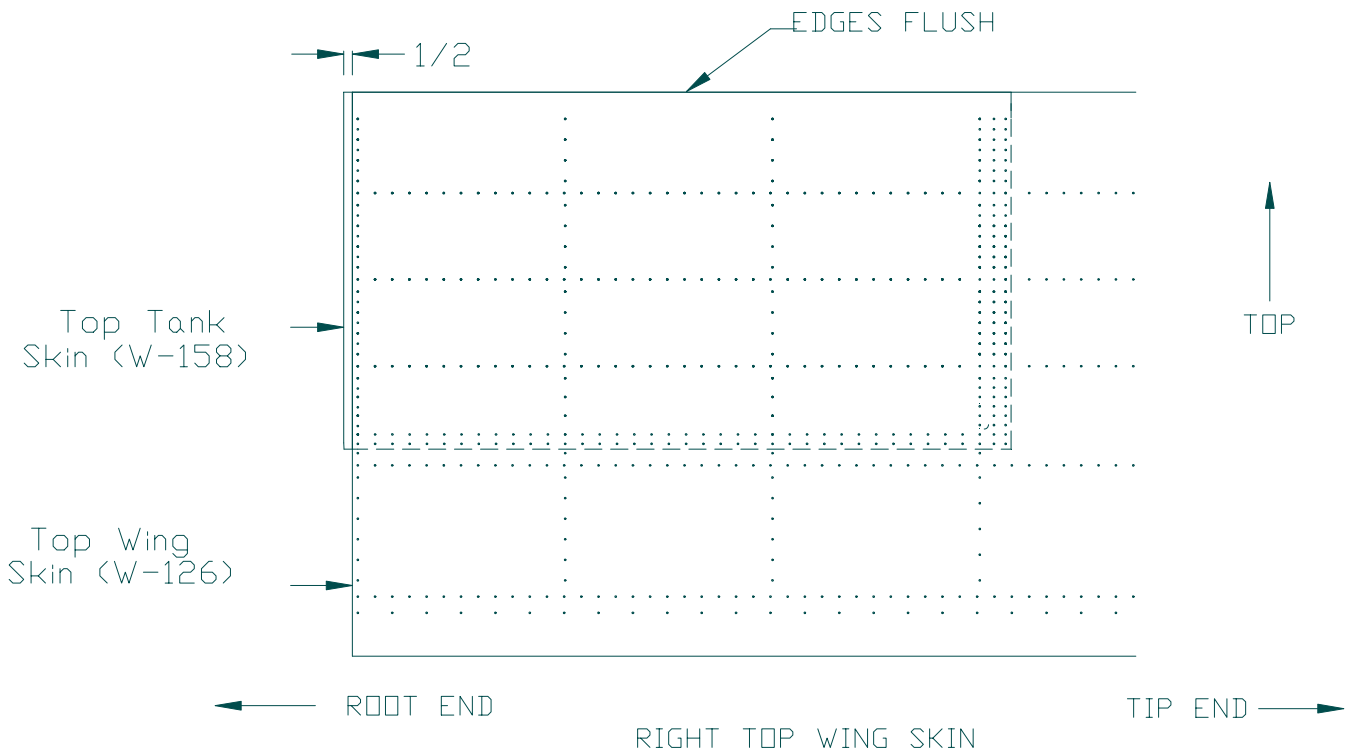

Figure 8.14.1
1) Place a Top Wing Skin (W-126) on a flat table. Position a Top Tank Skin (W-158) under the Root End. Ensure the top edges are flush and the Tank Skin protrudes out 1/2". Figure 8.14.1.